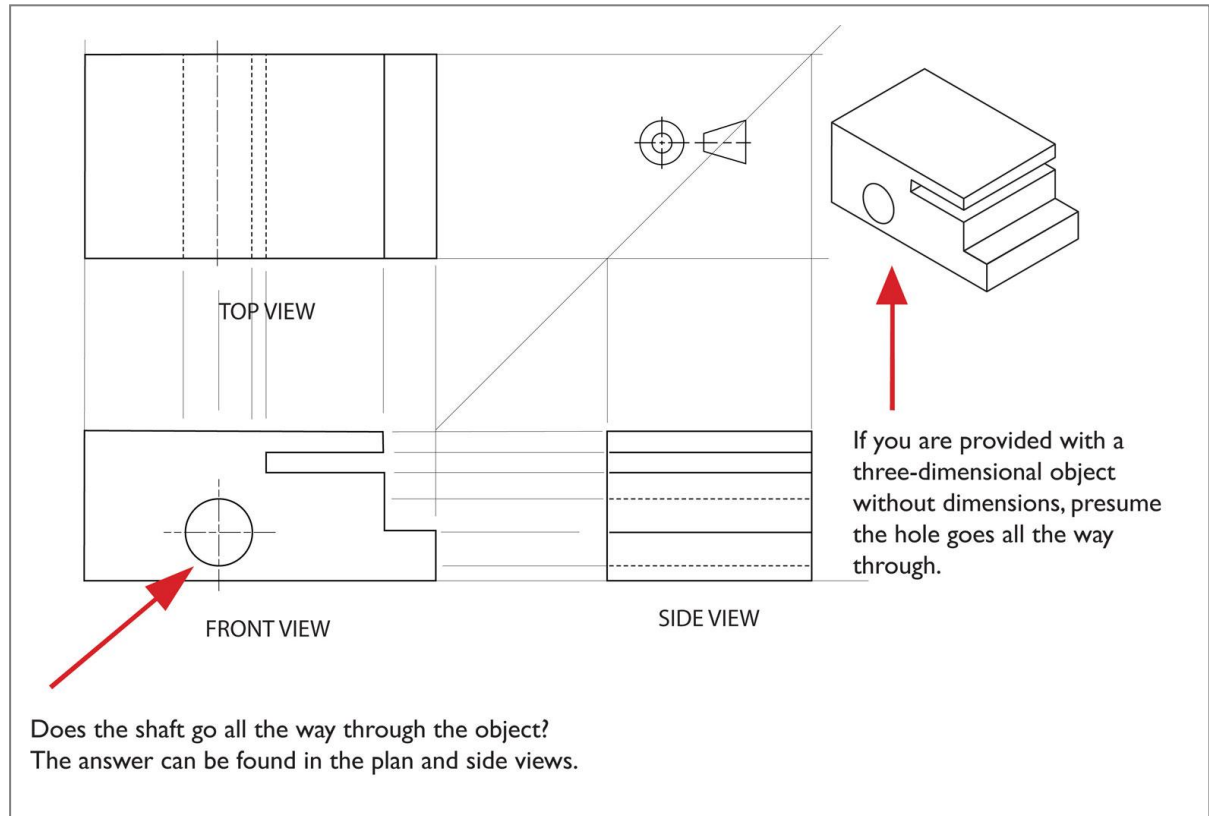
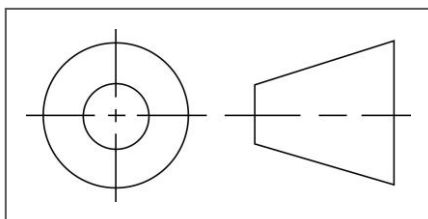

Figure 12
Figure 14
- In orthogonal drawing each view needs to show how it changes both on the surface, (visible lines) and below or behind the surface (hidden lines). For example, there may be a hole drilled on the front of the three-dimensional form (object). A circular solid shape is drawn to record this on the view it is seen on. The effect on the other two views must also be explained using these line styles. Questions such as “Does the shaft go all the way through the object, or does it stop at a particular depth” are answered on the other two views. If the circle was on the base, the circle would be drawn with dashes on the top view. If there is not an annotated leader indicating the depth of the cylindrical hole, then students can presume the hole goes completely through the object. Refer to Figure 12.
Frequently in orthogonal drawing visible outlines, hidden outlines and centre lines coincide. Which line has precedence? That is which line do you show on your drawing? The object in Figure 12 is the same object that has been seen in this document previously. However, the circle has been shifted slightly to the left and when drawn in orthogonal, causes some confusion in regards to line convention preference.
Because there are two projection systems used world-wide, all drawings must show a projection symbol to identify the system used. The projection symbol is part of labeling requirements and is placed on the drawing along with the labeling of views. In this study, students should include the actual symbol over the written reference. When drawing this symbol you should maintain the same proportions and line conventions as seen in figure 14 and place your symbol in the top right hand corner as seen in Figure 12